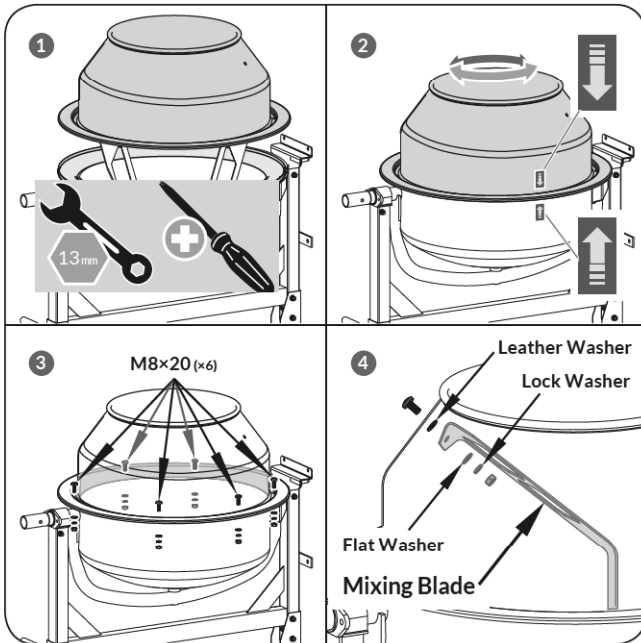

Figure 4
1. Place the upper drum onto the bottom drum by aligning both the mounting holes, and the labeled arrows. (See **Figure 4, Illustration 1 & 2**)
2. Insert a M8×20 cross headed screw into each mounting holes in the rim. Secure each screw from below with a flat washer, lock washer and nut. Make sure the tightening process is carried out progressively. (See **Figure 4, Illustration 3**)
4. A leather washer should be positioned inside between the drum and blade. Secure the mixing blade on the inside using a flat washer, spring washer and nut. (See **Figure 4, Illustration 4**)